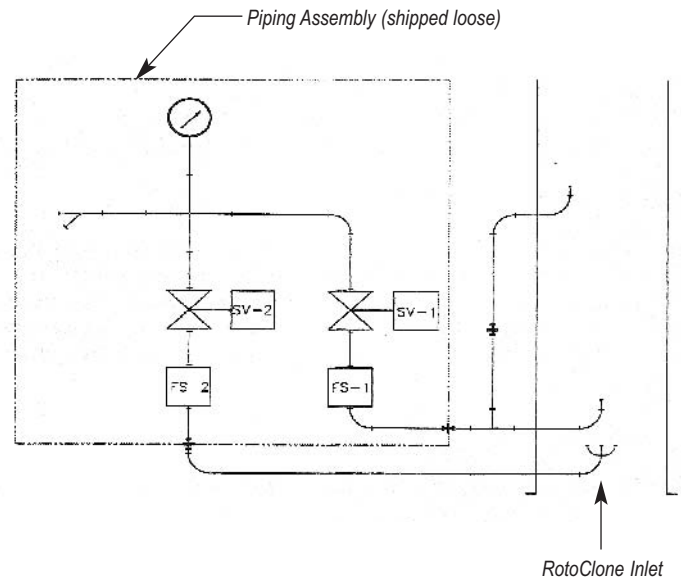

Figure 7: Flow Switches and Solenoid Valves
RotoClones provided with Range Hood or FM controls have slightly different inlet piping and controls than the standard W RotoClone. The Range Hood RotoClones have two (2) flow switches, two (2) solenoid valves, and extra inlet nozzle(s); and, no pressure switch, as described in the main IOM - see Figure 7. Additionally, there is